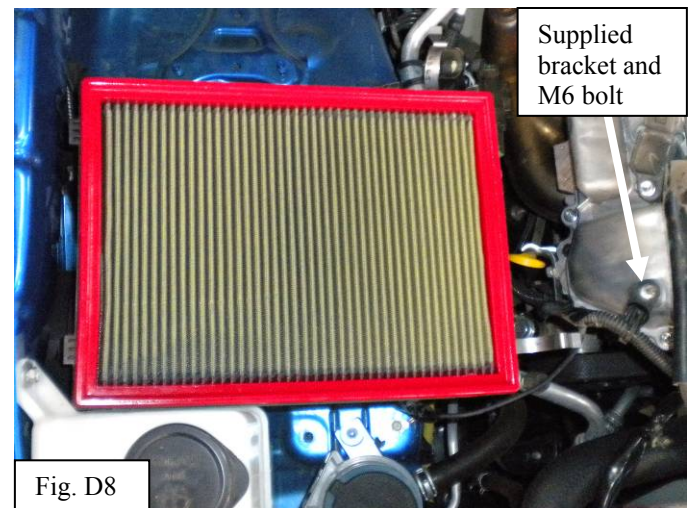

Fig. D8
7. Install TRD panel filter and wire harness bracket. (Fig. D8)
- ii. Install the supplied wire harness bracket and M6 bolt on the head cover where indicated in Fig. D8. Clip the factory wire harness into the oblong hole on the bracket.